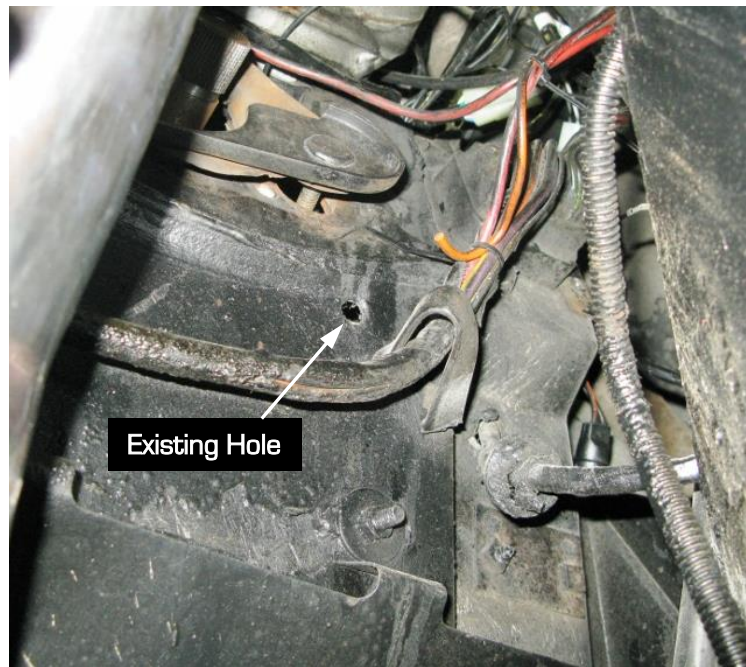
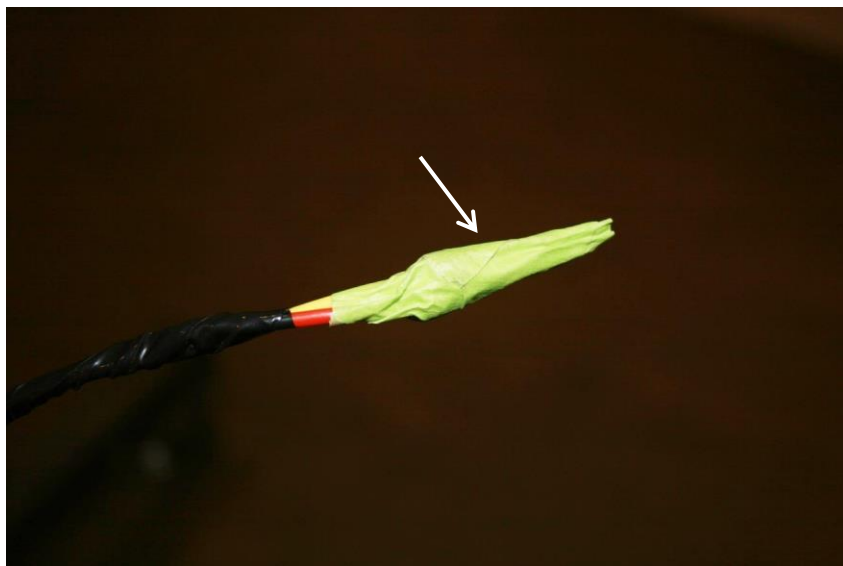

Figure 21 – Route Headlight Harness
Figure 22 – Tape 4 Terminals
18. Remove the left lower firewall insulation retaining plug from the firewall. It is located inside the vehicle just below the bottom right corner of the fuse block (the carpet may need to be pulled back slightly to gain access). The new headlight harness can be routed through this existing hole (Figure 21 on the next page). **NOTE:** You can drill a new hole on the side of the fuse box area if desired.
19. The terminated ends of the new headlight harness that do not have connectors on them, connect to the headlight door actuators. Tape these 4 terminals with masking tape to make it easier to route the harness (Figure 22). Feed the taped ends through the firewall in the existing hole (Figure 21 above) where the insulation plug was removed in the previous step and route the harness out to the headlight door actuators, routing it along with the original engine and body wiring harnesses.